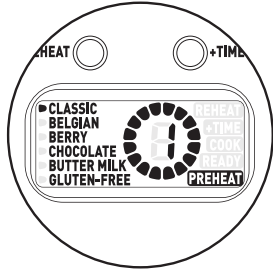

Fig. 6
- Turn on the unit by RECIPES SELECTOR to desired recipe with desired SHADE level selected by turning SHADE SELECTOR (Setting 1 will result in the lightest waffle; setting 7 the darkest). Pre-heat the waffle maker will start automatically once settings are confirmed (Fig. 6)